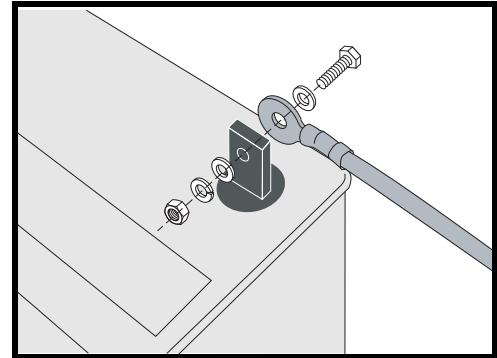

Figure 13. Battery Removal/Installation
- Disconnect the battery cables from the battery terminals on each battery by removing the nut and bolt from each battery terminal. **See figure 13.**